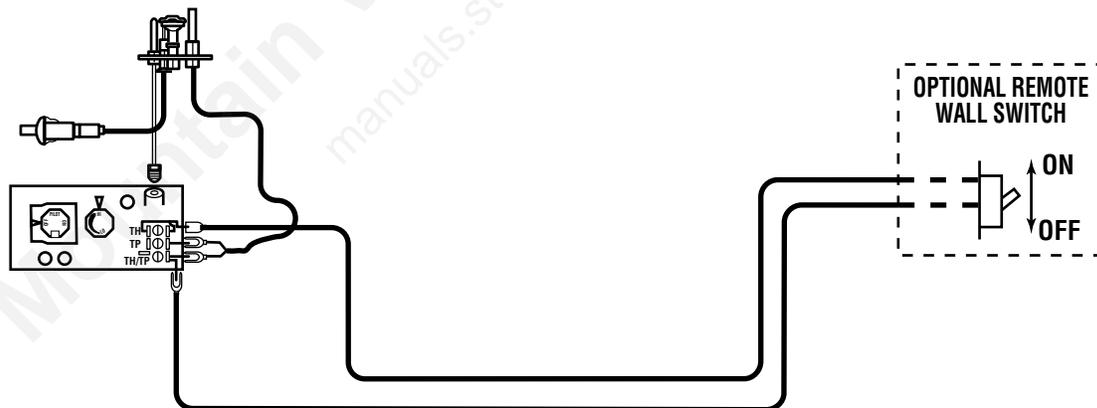

Figure 30 - Wiring Diagram for Wall Switch
A remote wall switch and up to fifteen (15) feet of 18 Ga. wire may be used with this appliance. Attach the wall switch in a junction box at the desired location on the wall. See Figure 30. Do not extend beyond the wall switch wire length provided.